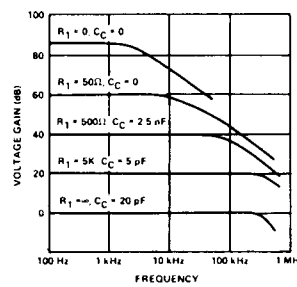

Figure 12. Op Amp Frequency Response
**OP AMP COMPENSATION (Pin 12):** The op amp section can be compensated for unconditional stability with a 20pF capacitor connected between pin 12 and pin 11. For op amp voltage gains greater than unity, this compensation capacitance can be reduced to improve slew rate and small signal bandwidth as shown in Figure 12.